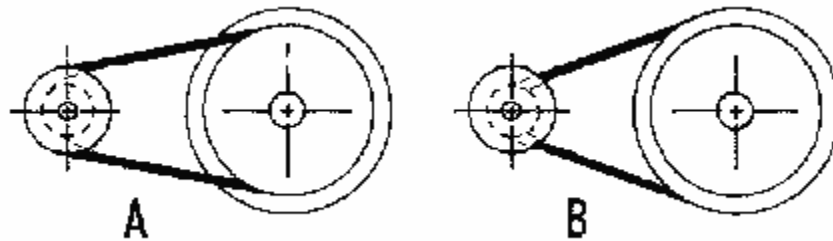

FIGURE 11-The two pulley positions. Position A is the conventional setting, position B offers more torque at low RPM. (Seen from pulley end of headstock.)
4. Set outer belt guard in place locating other post of hinge plate in its pivot hole. Motor standoff ends will register in holes in outer belt guard. Make sure the drive belt is routed properly. Then secure the cover with (2) 1-3/8" pan head screws which go into nuts pressed into the back of the inner belt guard.
6. Place drive belt over spindle pulley and insert 10-32 x 3/4" socket head screws (with 2 washers on each) through motor mount slot and into holes in the ends of the motor standoffs. (These standoff ends should be exposed through locating holes in the outer belt guard.) NOTE: The normal operating position for the drive belt is on the large diameter groove on the motor pulley and the small diameter groove on the spindle pulley. Use of the other (low RPM) position is discussed elsewhere in these instructions. (See Figure 11.)